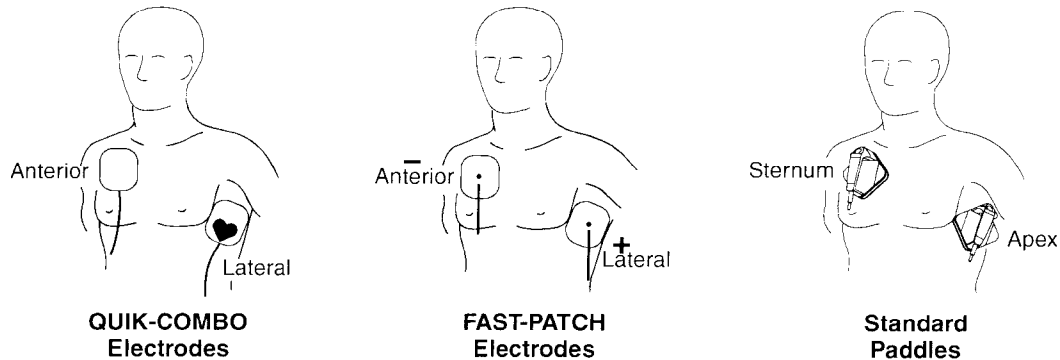

Figure 4-1 Anterior-lateral Placement
- 1 Place either the ♥ or + therapy electrode, or apex paddle lateral to the patient's left nipple in the midaxillary line, with the center of the electrode in the midaxillary line, if possible. See Figure 4-1.
- 2 Place the other therapy electrode or sternum paddle on the patient's upper right torso, lateral to the sternum, and below the clavicle as shown in Figure 4-1.